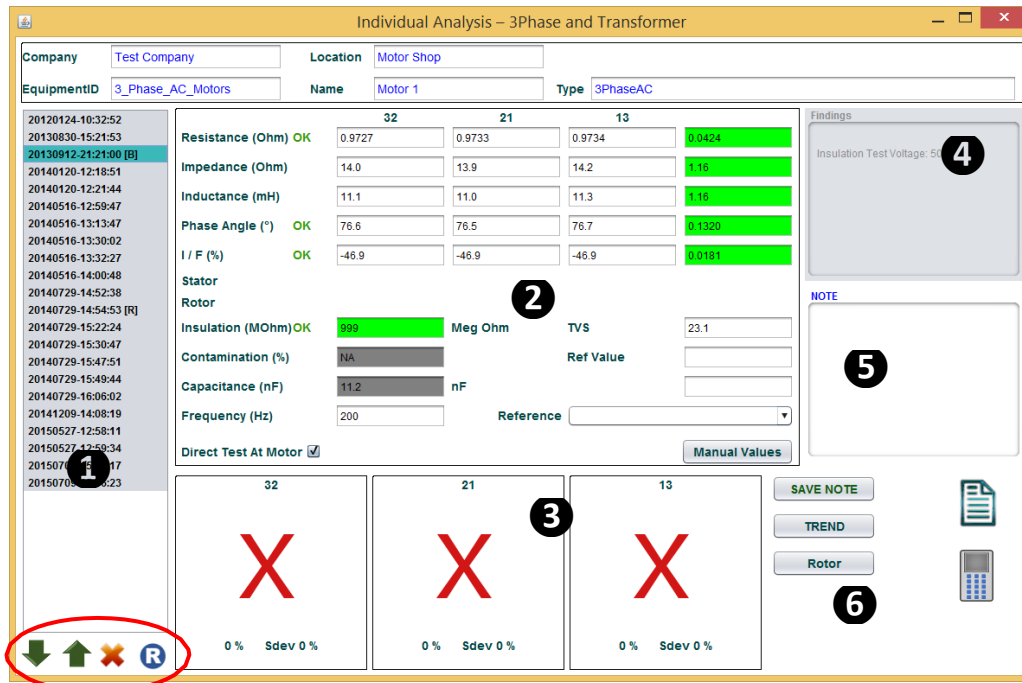

Figure 2 An Example of individual analysis on 3 Phase AC Motor
- c. The manual input option requires the users to put the resistance, test voltage and the diagnostic conclusion of OK, WARN or BAD. The “Insulation (GOhm)” and test voltage displayed in Findings on the Individual Analysis screen (Figure 2) will be changed accordingly.
On the bottom right corner of Individual Analysis screen Figure 2, clicking on the report icon as circled below will pop up the individual analysis report window.
Before trending analysis, a test record has to be set as a baseline by using upward/downward arrow located on the bottom of Area ① on Figure 2. The test record set as baseline will be marked with “[B]”. Different baseline test data will lead to different findings.